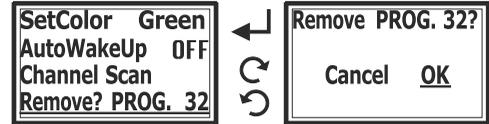

Fig. 22
(3) CAUTION:
(O) Remove ? function, Fig. 22: